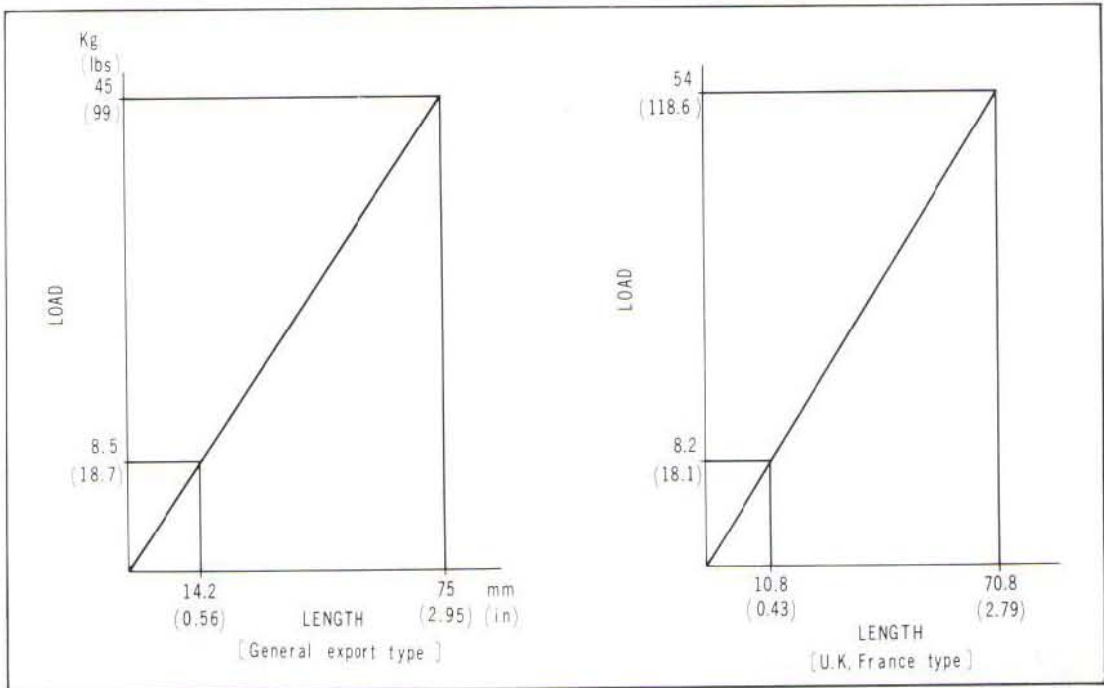

Fig. 4.18 Front cushion spring characteristic
11. Front cushion spring characteristics. (Fig. 4.18)